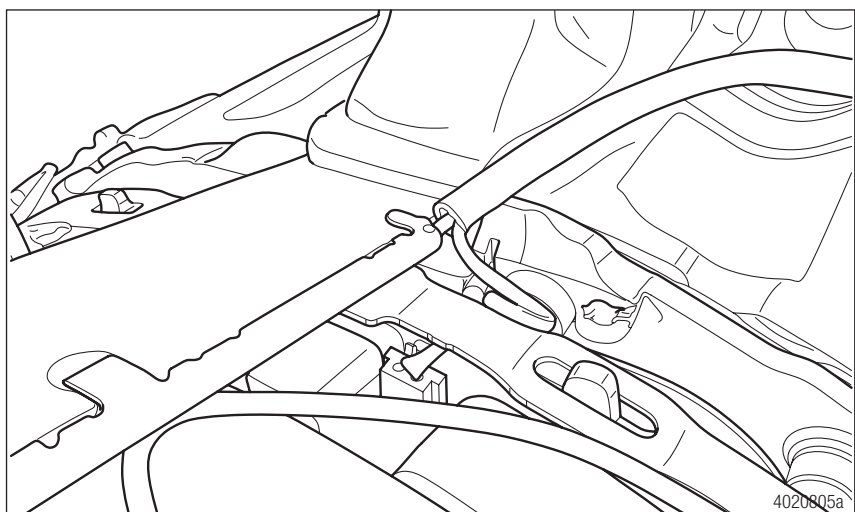

Figure 13
2. Fit inboard PWWI sensor to pad slot. (Figure 13)